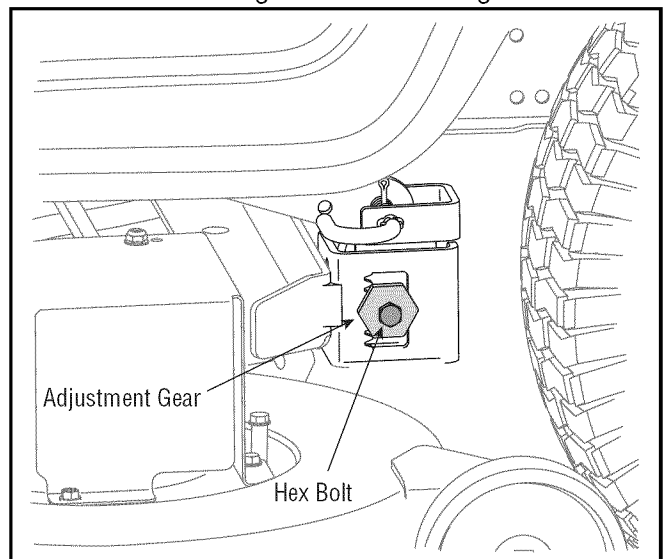

Figure 9
- Loosen, but do NOT remove, the hex cap screw on the left deck hanger bracket. See Figure 9.